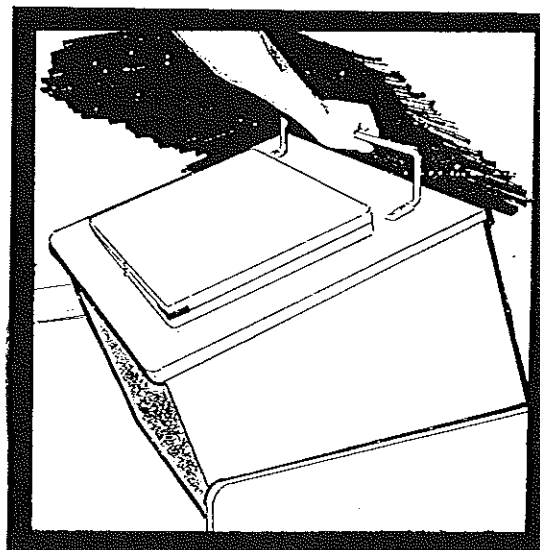

FIGURE 19
29. Grasp stove module towel bar at the center and rotate 180 degrees toward the outer wall of the trailer until the stove module is securely seated on the lower galley top. See Figure 19.